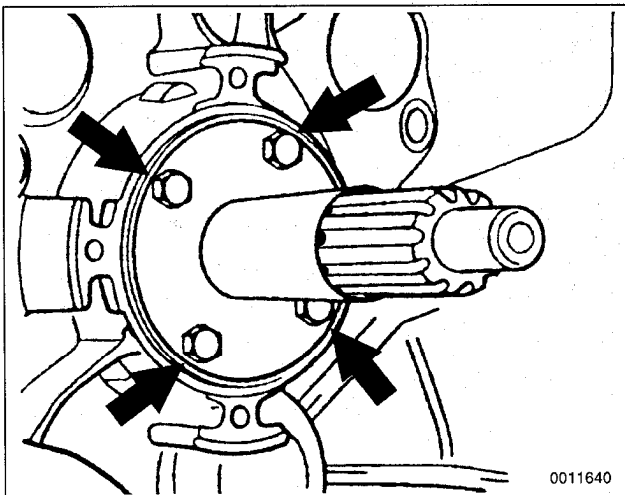

**Fig. 8.** Clutch release bearing guide sleeve bolts. (Getrag transmission shown).
2. Remove bolts for clutch release-bearing guide sleeve, noting bolt lengths. Remove sleeve and any spacers (shims) under it. See Fig. 8.